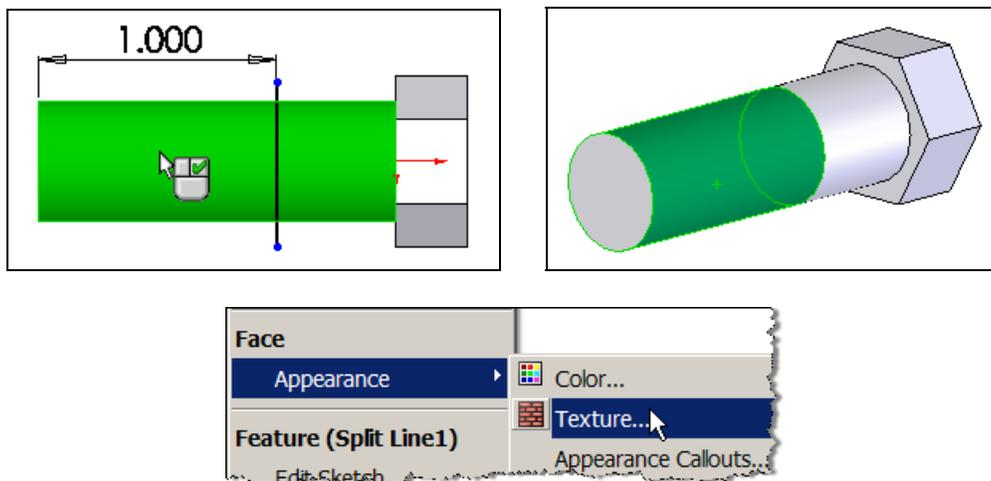

Figure 2 Selecting the surface to texture as a thread
4. Right click on the thread surface side of the surface split, click **Appearance**→**Texture** to open the **Selection** panel, as shown in Figure 2.